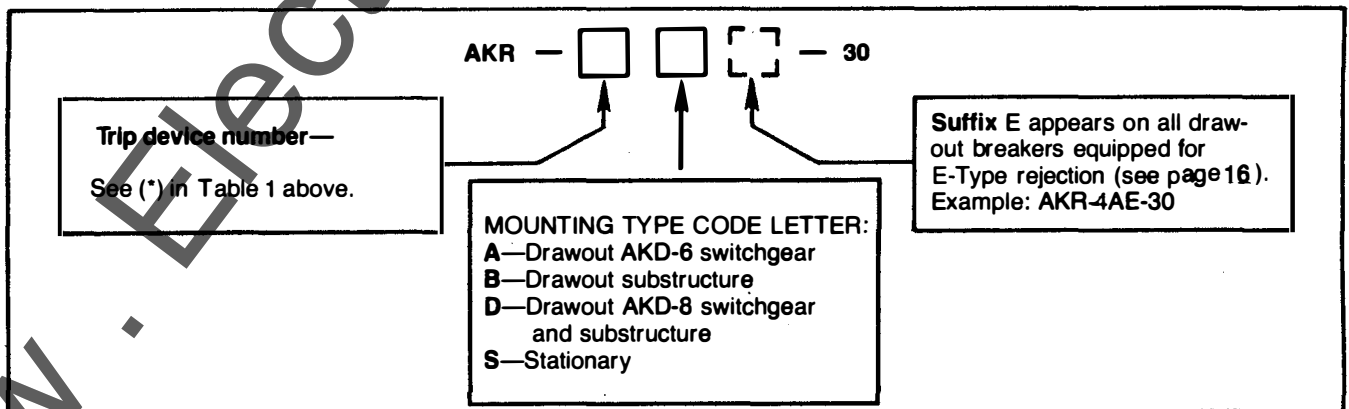

Fig. 1. AKR breaker type designation
As listed in Tale 1, the 800 thru 2000A frame AKR breakers are furnished in four different mounting types—drawout A, drawout B, drawout D, and stationary (S). Each of these is described in the text. A breaker's type is indicated on its nameplate; the designation system is explained in Fig. 1.